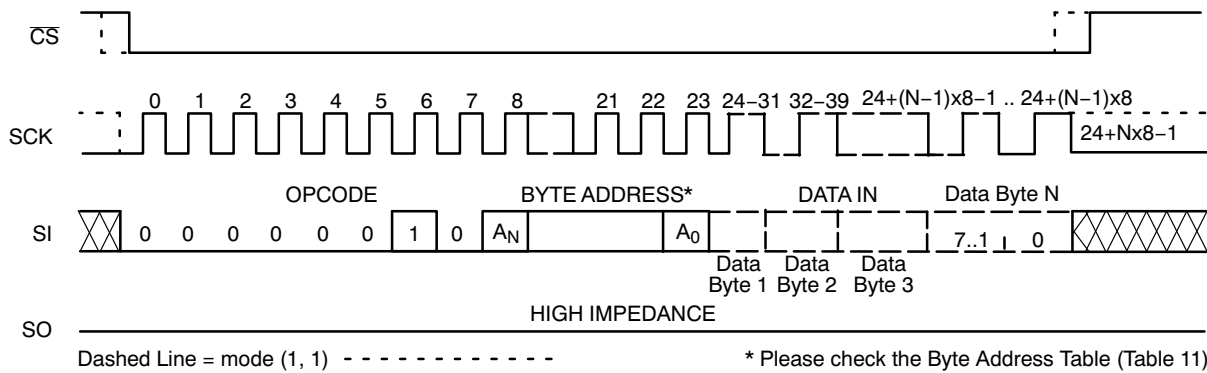

Figure 6. Page WRITE Timing
After sending the first data byte to the CAV25256, the host may continue sending data, up to a total of 64 bytes, according to timing shown in Figure 6. After each data byte, the lower order address bits are automatically incremented, while the higher order address bits (page address) remain unchanged. If during this process the end of page is exceeded, then loading will "roll over" to the first byte in the page, thus possibly overwriting previously loaded data. Following completion of the write cycle, the CAV25256 is
The additional 64-byte Identification Page (IP) can be written with user data using the same Write commands sequence as used for Page Write to the main memory array (Figure 6). *The IPL bit from the Status Register must be set (IPL = 1) using the WRSR instruction, before attempting to write to the IP.*